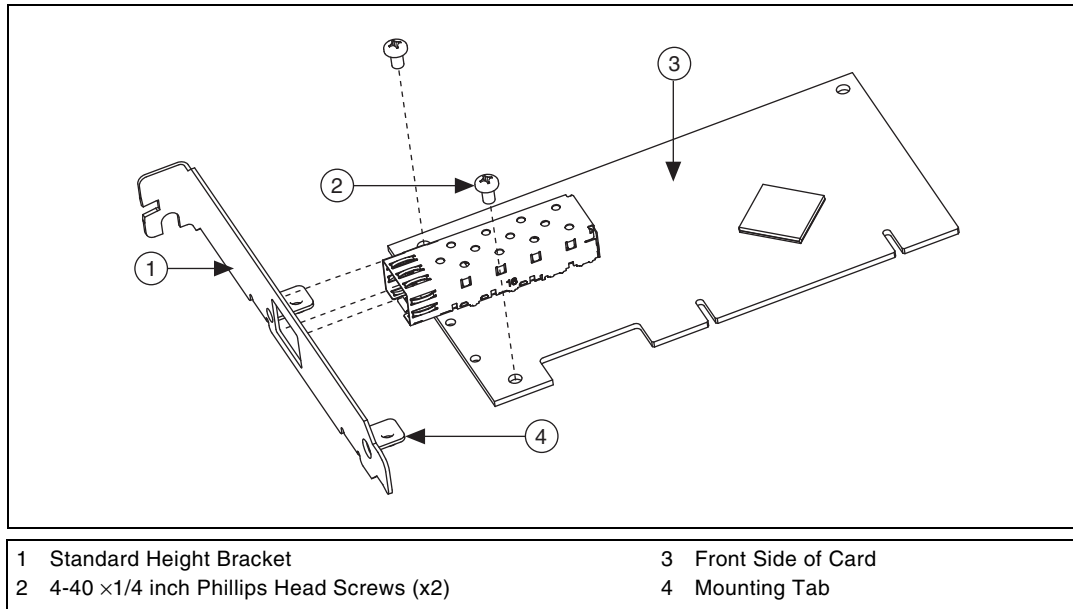

Figure D-2. Removing Bracket
4. Remove the two 4-40 $\times$ 1/4 inch Phillips head screws that attach the standard height bracket to the card as shown in Figure D-2. Set the screws aside to re-use when installing the low-profile bracket.
5. Remove the standard height bracket as shown in Figure D-2.